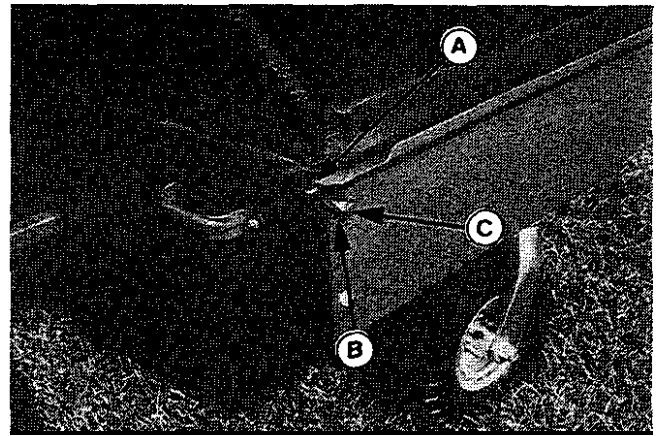

Figure 13
- Pinch the black cord loop (B, figure 13) and thread it through the eyelet on each end of the rod. Next, pull the loop over the top bolt (C) on each side of the box. The rod gives added support to the cover at the front of the box.